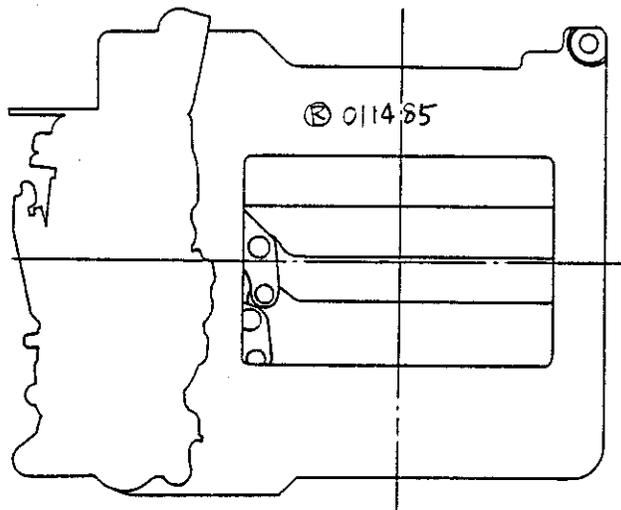

Figure 7.
4. Use a pencil to write the mark " $\text{\textcircled{R}}$ " and the date of repair on the aperture plate. It will give a reference for future repair. See Figure 7.